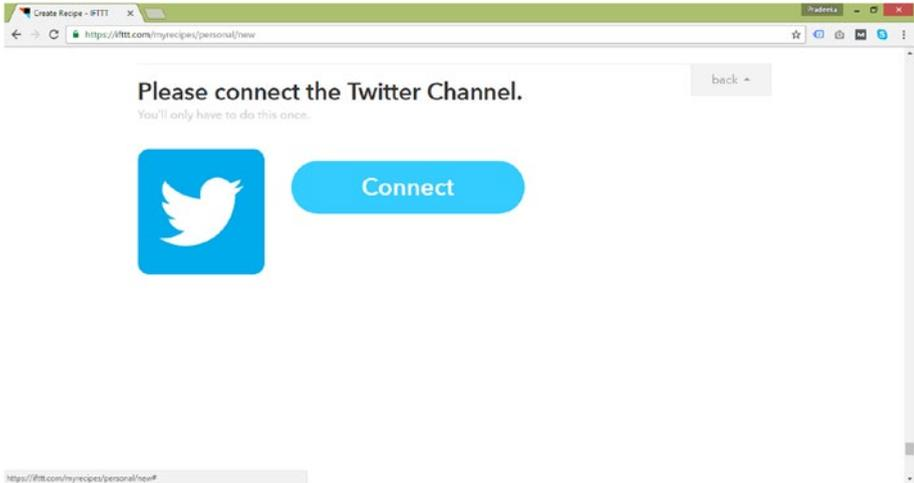

Figure 8-17. Connecting to the Twitter channel
9. Click the **Connect** button, as shown in Figure 8-17.